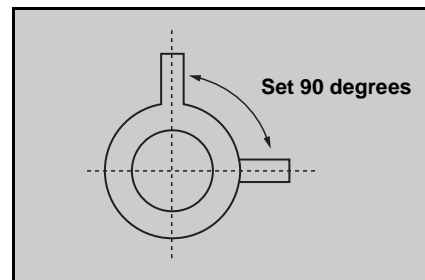

Figure 31. **4-pole magnet**
- Position the longer tab of the four-pole magnet to 90 degrees (uncorrected position). (see figure 31).